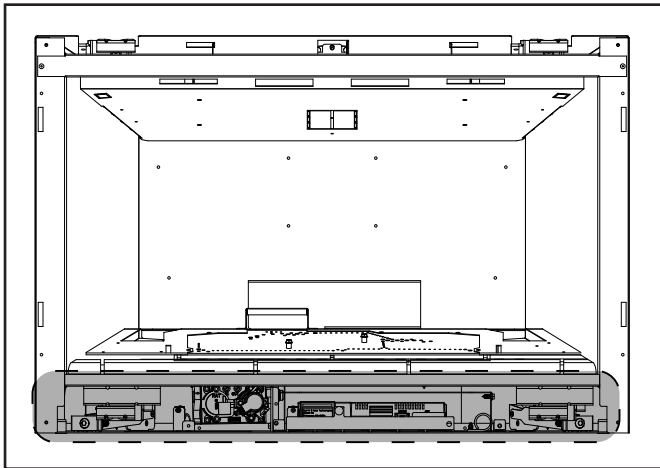

Figure 3.7 Control Cavity
1. Access the control cavity of the appliance. See Figure 3.7 for location. The decorative front, fixed glass assembly, and glass seal plate will need to be removed.